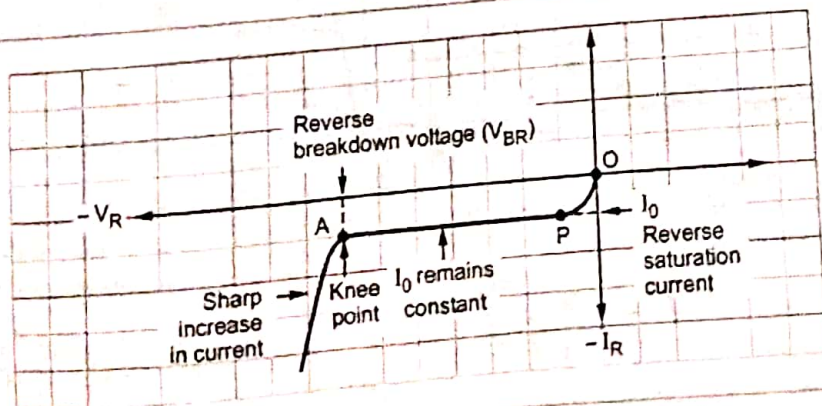

Fig. Q.6.2 Reverse characteristics of p-n junction diode
- As the reverse voltage is increased, reverse current increases initially but after a small voltage becomes constant equal to reverse saturation current I_0 . This point is shown as P, in the Fig. Q.6.2.